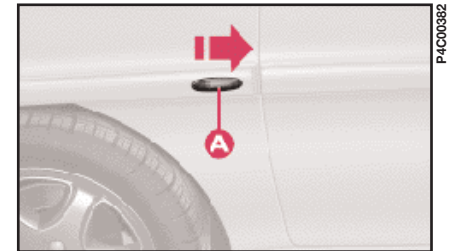

fig. 15
1) Push the lens **A** (fig. 15) in the direction of the arrow to release the fastening tab. Be careful not to damage the bodywork.